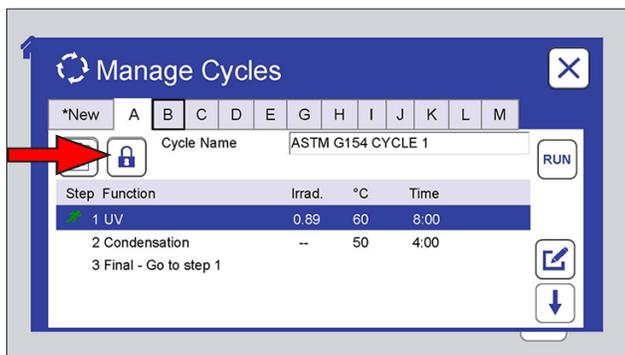
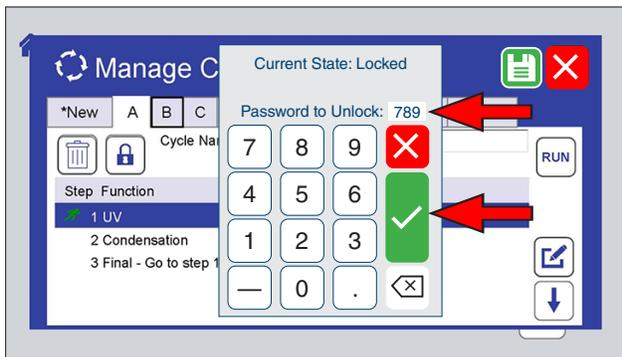

Figure 11.7.3a: Touch the lock icon to lock the cycle.
Figure 11.7.3d: To unlock a cycle, touch the lock icon, enter the password, then touch the check mark button.
- Lock a cycle to prevent unauthorized changes (Figure 11.7.3a through Figure 11.7.3d).